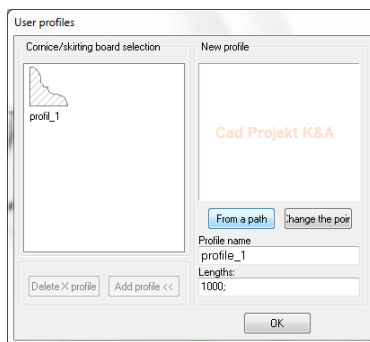

Fig. 239 – selecting a path for the profile
- in the new dialog box click **From a path** button (Fig. 239);